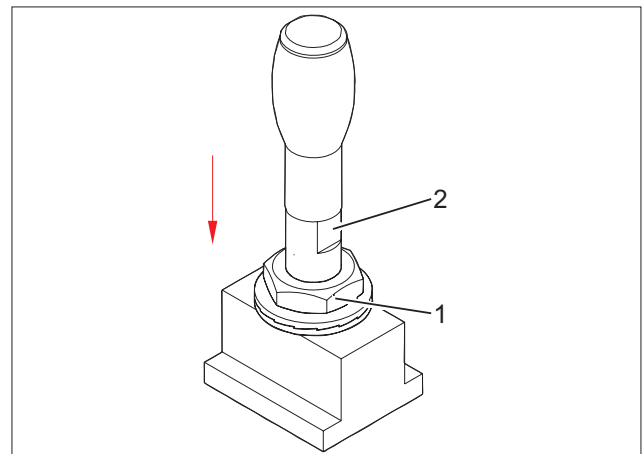

Fig. 20 Loosening the support block
8. Loosen the lock nut (Fig. 20/1) on the support block using a 17-mm open-end wrench.
9. Screw in the bolts (Fig. 20/2) using an 8-mm open-end wrench.